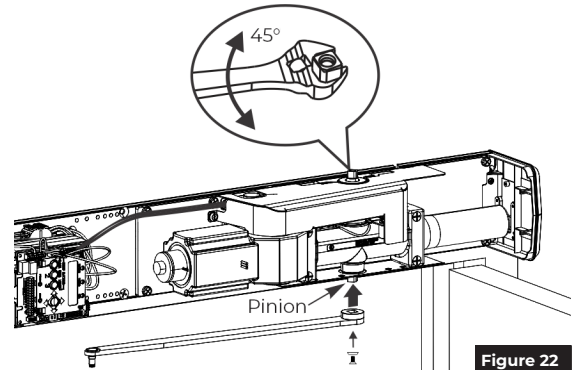

Figure 22
2. Using an adjustable wrench, rotate top pinion 45 degrees toward door hinge. You will feel resistance from spring. (Figure 22)
3. **While holding pinion at 45 degrees**, slide arm on bottom pinion parallel to frame as shown. (Figure 22)
4. Secure arm to pinion with 1/4-20 x 1/2" screw and countersunk patch washer. (Figure 22)